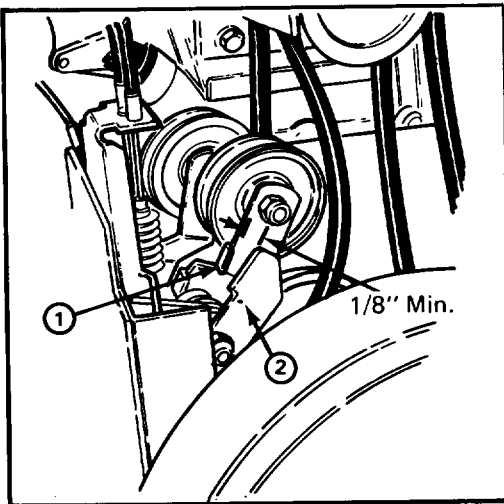

Figure 28
3. Check idler and brake adjustment. There should be a minimum clearance of 1/8" between tab on impeller idler arm and brake arm (Fig. 28). If there is less than 1/8" clearance, belt must be replaced.